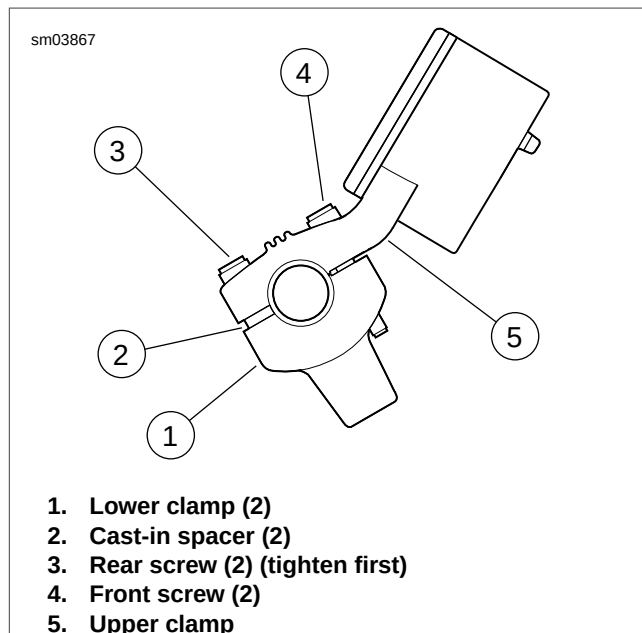
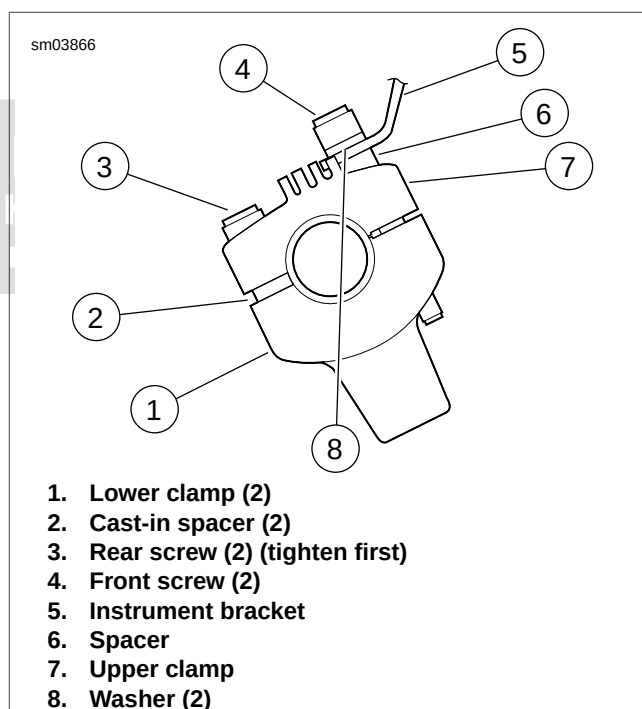

Figure 2-228. Handlebar Riser: XL 1200L/XL 1200N
Figure 2-229. Handlebar Clamp: XL Models with Bolt-On Instrument Bracket
2. Slide right handlebar control housing and throttle assembly (6, 8, 11) onto right end of handlebar (7). Position handlebar on lower handlebar clamps.
3. Place upper handlebar clamp (5) or clamp/instrument bracket (2) in position and install four screws (4).
- a. See Figure 2-229. Place spacers (6) over two front mounting holes of upper handlebar clamp.
- b. Position instrument bracket (5) over two front holes of upper handlebar clamp and install two screws (4) and washers (8).
5. See Figure 2-228. Adjust handlebars to desired position. Tighten rear screws first, to 12-18 ft-lbs (16.3-24.4 Nm). Then tighten front screws to 12-18 ft-lbs (16.3-24.4 Nm).